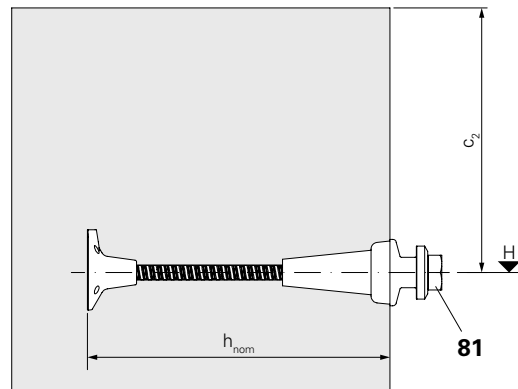

Fig. 03
(Fig. 03)
- $c_2 = 350$ mm Standard spacing to the concrete joint if not specified in the plan. (Fig. 03)